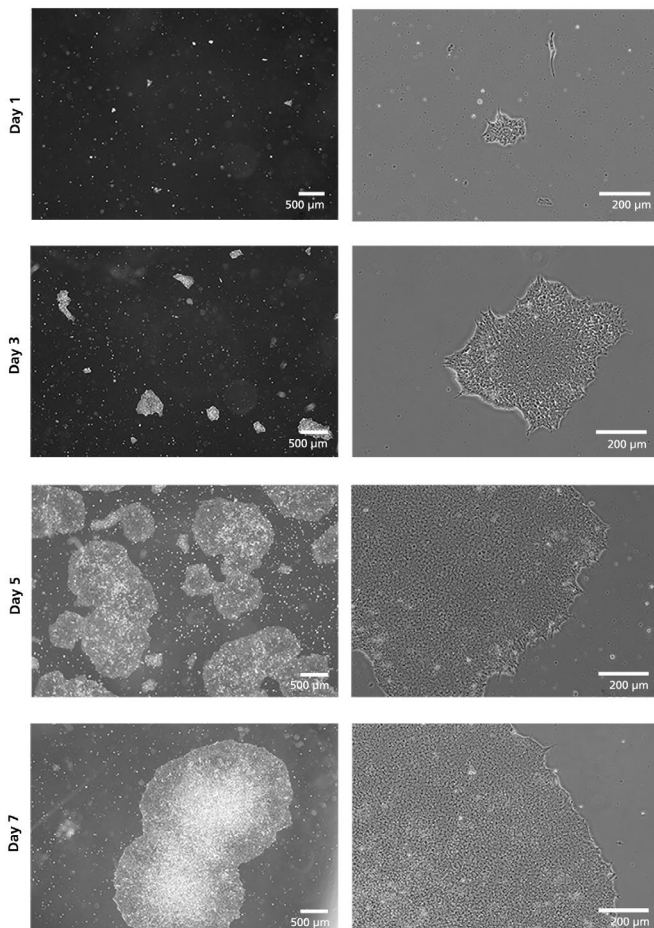

Figure 1. Recovery of Representative PD hiPSCs on Days 1 - 7 After Thaw.
- Perform medium changes as desired using mTeSR™ Plus and visually assess cultures daily to monitor growth and morphology. See Figure 1 for expected growth characteristics during the first seven days after thawing. Medium can be changed daily, every other day, or up to two consecutive days of feeding can be skipped when using mTeSR™ Plus. To skip two consecutive days of feeding, add twice the volume of medium.